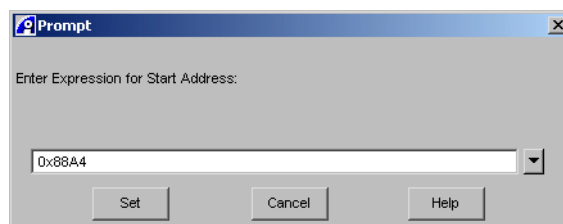

Figure 6-11 Memory start address selection box
8. Select **Set Start Address...** to display the dialog box shown in Figure 6-11.
Select this option to enter a C/C++ expression to compute the start address. This displays the selection box shown in Figure 6-11 on page 6-20 with the current expression already displayed. Change the address and click **Set** to specify the start address for the memory view.